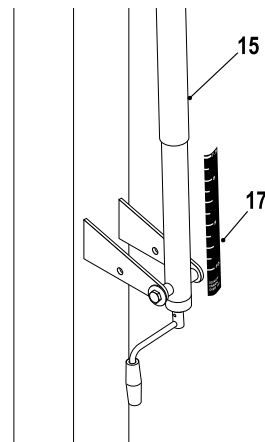

Figure 12
- Adjust unit to 7-1/2 feet. Use a tape measure to measure from the top of the rim to the playing surface. Stick Height Decal (#17) to back of Actuator (#16) with the "7.5" mark aligned with bottom of Actuator Sleeve (#15). See Figure 12.